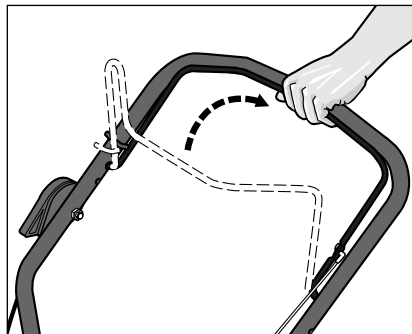

Figure 4-4: Control bail engaged.
3. When the engine is running, pull up and hold the control bail against the handlebar (Figure 4-4) to start rotation of the trimmer head.
2. Slowly close the Trimmer Head Control Bail (Figure 4-4) against the handlebars to activate the trimmer head. Use the Engine Throttle Lever to adjust the turning speed of the trimmer head.